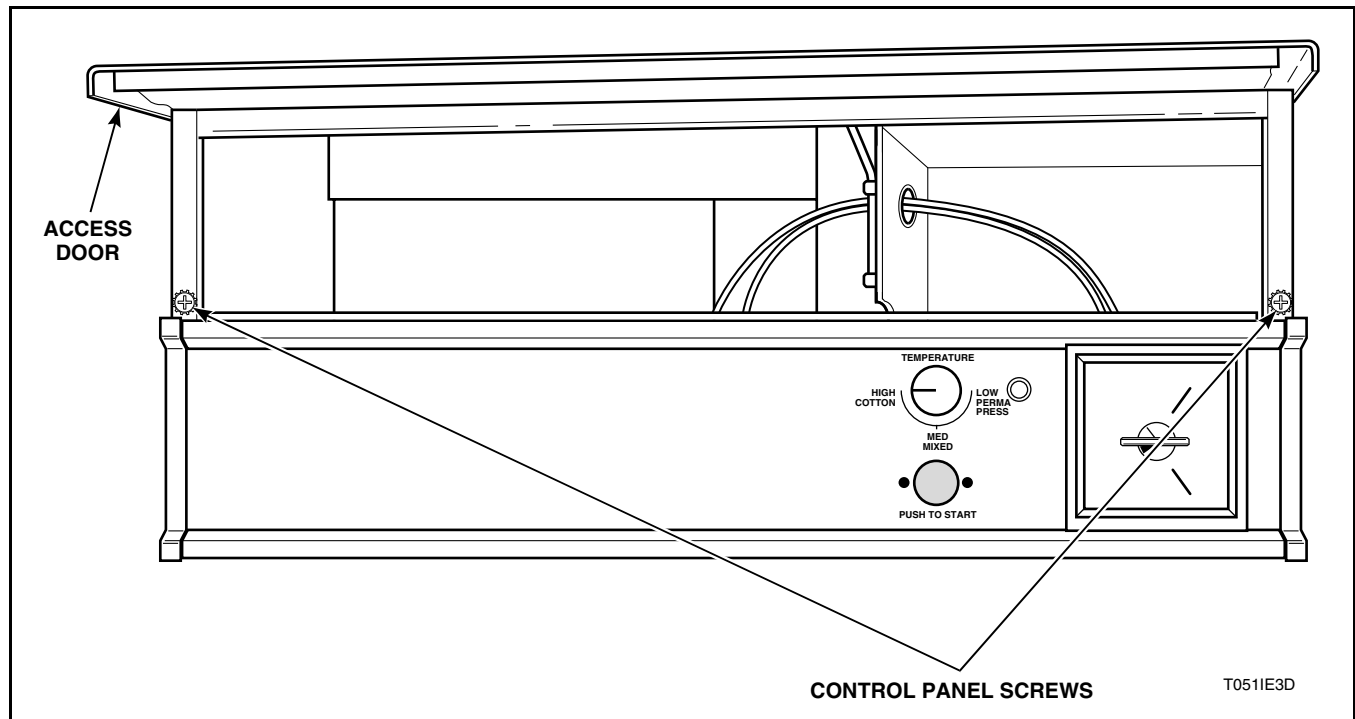
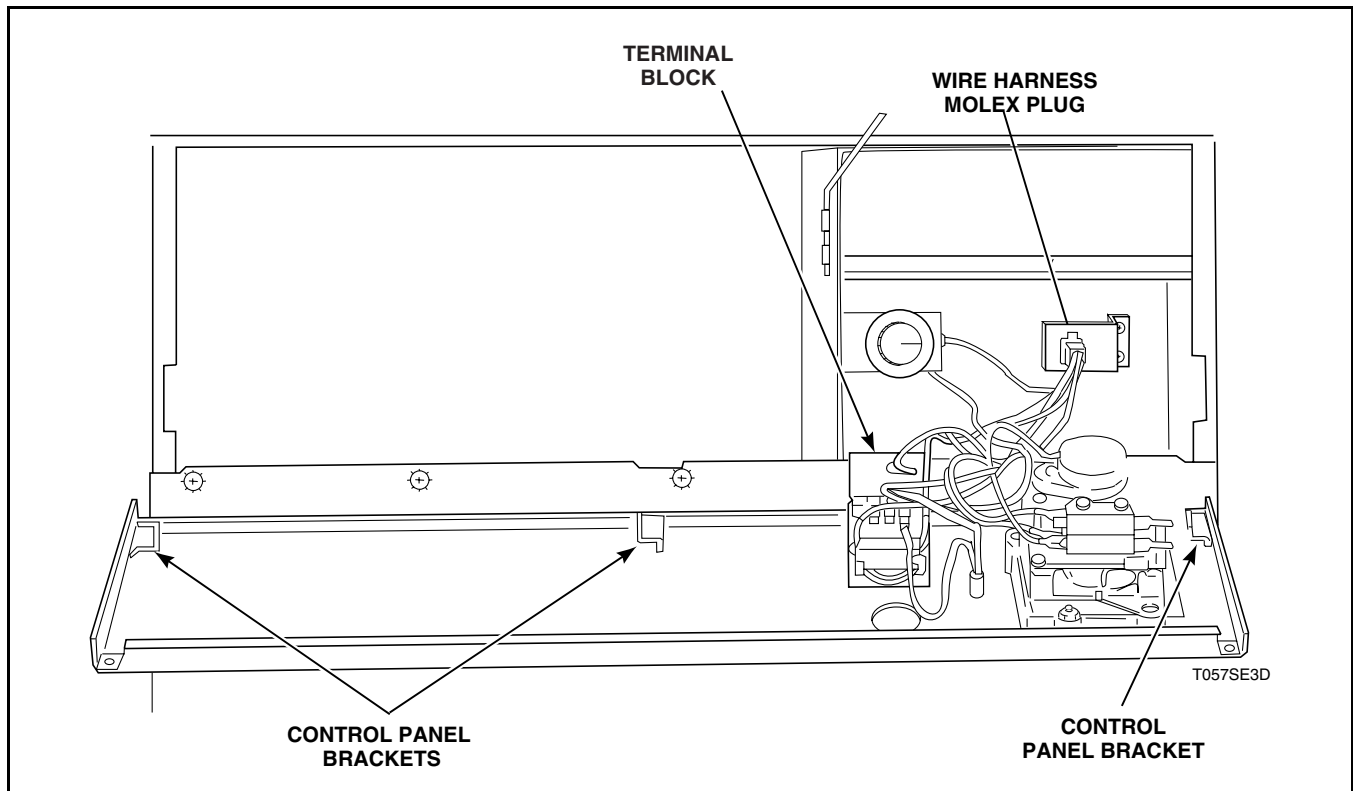

Figure 1
Figure 2
- b. Remove two screws holding control panel to cabinet. Refer to *Figure 1*.
- d. Disconnect wire harness Molex plug and remove control panel. Refer to *Figure 2*.
- c. Lift control panel brackets off front panel. Refer to *Figure 2*.
- b. Remove two screws holding start switch assembly to control panel, refer to *Figure 1*.
(Figure 2)
- Remove two screws holding control panel to cabinet. Refer to *Figure 1*. Lift control panel brackets off front panel. Refer to *Figure 2*.
- Lift control panel brackets off front panel, *Figure 2*.
- Lift control panel brackets off front panel. Refer to *Figure 2*.